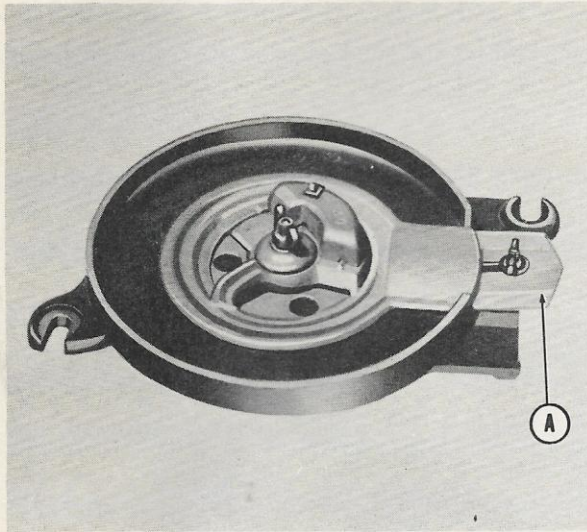

Figure 12
11, on top of the seed plate and secure with the collar (6) and wing nut (5) as shown in Figure 12.